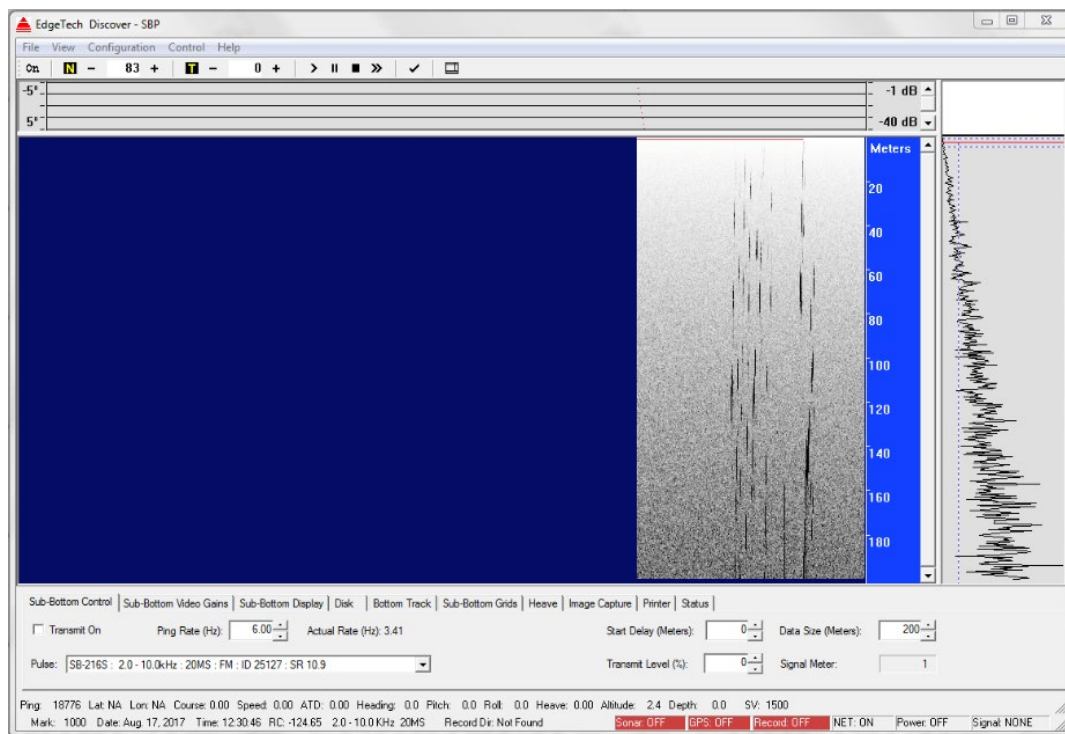

Figure 2-8: Tap Test Results
6. Tap the tow vehicle's underside near the PVDF receiver with a screwdriver handle while observing the Sub-Bottom Waterfall Display in Discover. Streaks or noise spikes should be visible in the Sub-Bottom Display, as shown in **FIGURE 2-8**. This verifies the receive channel is operating.